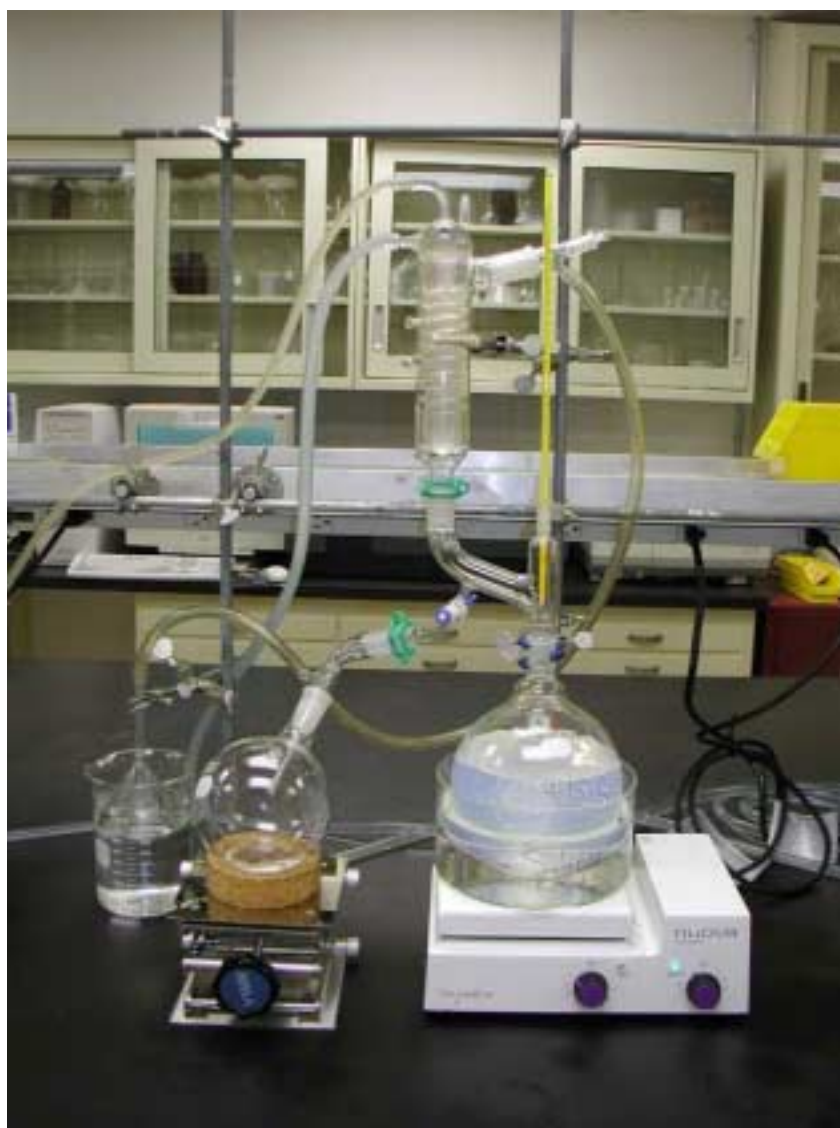

Figure 1: Photograph of distillation/reflux setup.
- Distillation setup (See Figure 1)
- Reflux the sol by placing the sol/flask in setup shown in Figure 1. Place Flask in distillation set-up by attaching ground glass joint of flask to the distillation head. Use a Teflon sleeve between the ground glass joints. Lower flask into silicone oil bath. Turn on the hot plate to 7-8 setting and then hook-up the ammonia collection in the manner shown in Fig. 1. Add water to the ammonia collection beaker. Make sure that the stir bar is rotating (setting 4); this will nucleate bubbles. The distillation will begin at $\sim 68^\circ\text{C}$, and bubbles should be seen coming into the ammonia collection beaker. The temperature will slowly rise to 78°C as more ammonia is removed. Continue to distill and collect EtOH (900-1000 g) in the collection flask.
- Distill the sol by placing the sol/flask in setup shown in Figure 1. Place Flask in distillation set-up by attaching ground glass joint of flask to the distillation head. Use a Teflon sleeve between the ground glass joints. Also add a slight N_2 cover gas that is fed in on the second neck of the 3 liter round bottom flask. Turn on the hot plate to 7-8 setting and then hook-up the ammonia collection in the manner shown in Fig. 1. Add water to the ammonia collection beaker. Make sure that the stir bar is rotating; this will nucleate bubbles. The distillation will begin at 68°C , and bubbles should be seen coming into the ammonia collection beaker. The temperature will slowly rise to 78°C as more ammonia is removed. Continue to distill and collect EtOH in the collection flask.
- 4) Distill off 500g of EtOH to concentrate the solution to 12% silica. To do this, assemble a distillation setup as shown in Figure 1. Place flask in distillation setup by attaching ground glass joint of flask to the distillation head. Use a teflon sleeve between the ground glass joints. Heat silicone oil at a setting of 7-8 on hotplate. Hook up ammonia collection in the manner shown in Fig 1: Add water in beaker. The distillation will start at about 68°C, and bubbles should be seen coming out of the ammonia catch tube. You should see the bubbles getting small as they rise in the beaker, indicating that ammonia is dissolving into the water. The temperature will slowly rise to 78°C as the ethanol distills out. Continue to distill until 500g of EtOH is collected in the collection flask. The entire distillation process should take about 4 hours. Periodically weigh the collection flask to check amount ethanol distilled.
- 11) Add 540 g of decane and distill as shown in Fig. 1 until all the ethanol, ammonia, and HMDS by-products are removed. Distillation starts at 48°C and rises up to 100°C. Continue until distillation stops and the temperature drops to <70°C. This distillation takes approximately 6 hours.